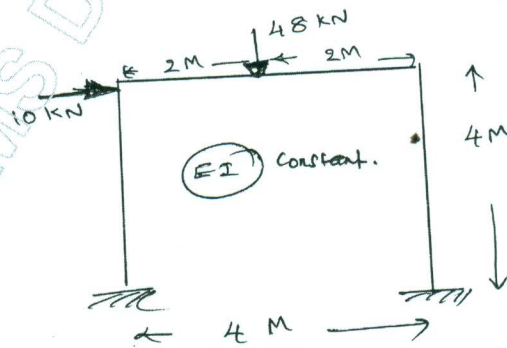

Fig.Q8
- 8 Analyze the frame shown in Fig.Q8 by direct stiffness method. Assume $E = 200 \text{ GPa}$, $I_{zz} = 1.33 \times 10^{-5} \text{ m}^4$, $A = 0.01 \text{ m}^2$. Flexural rigidity and axial rigidity are same for all members.